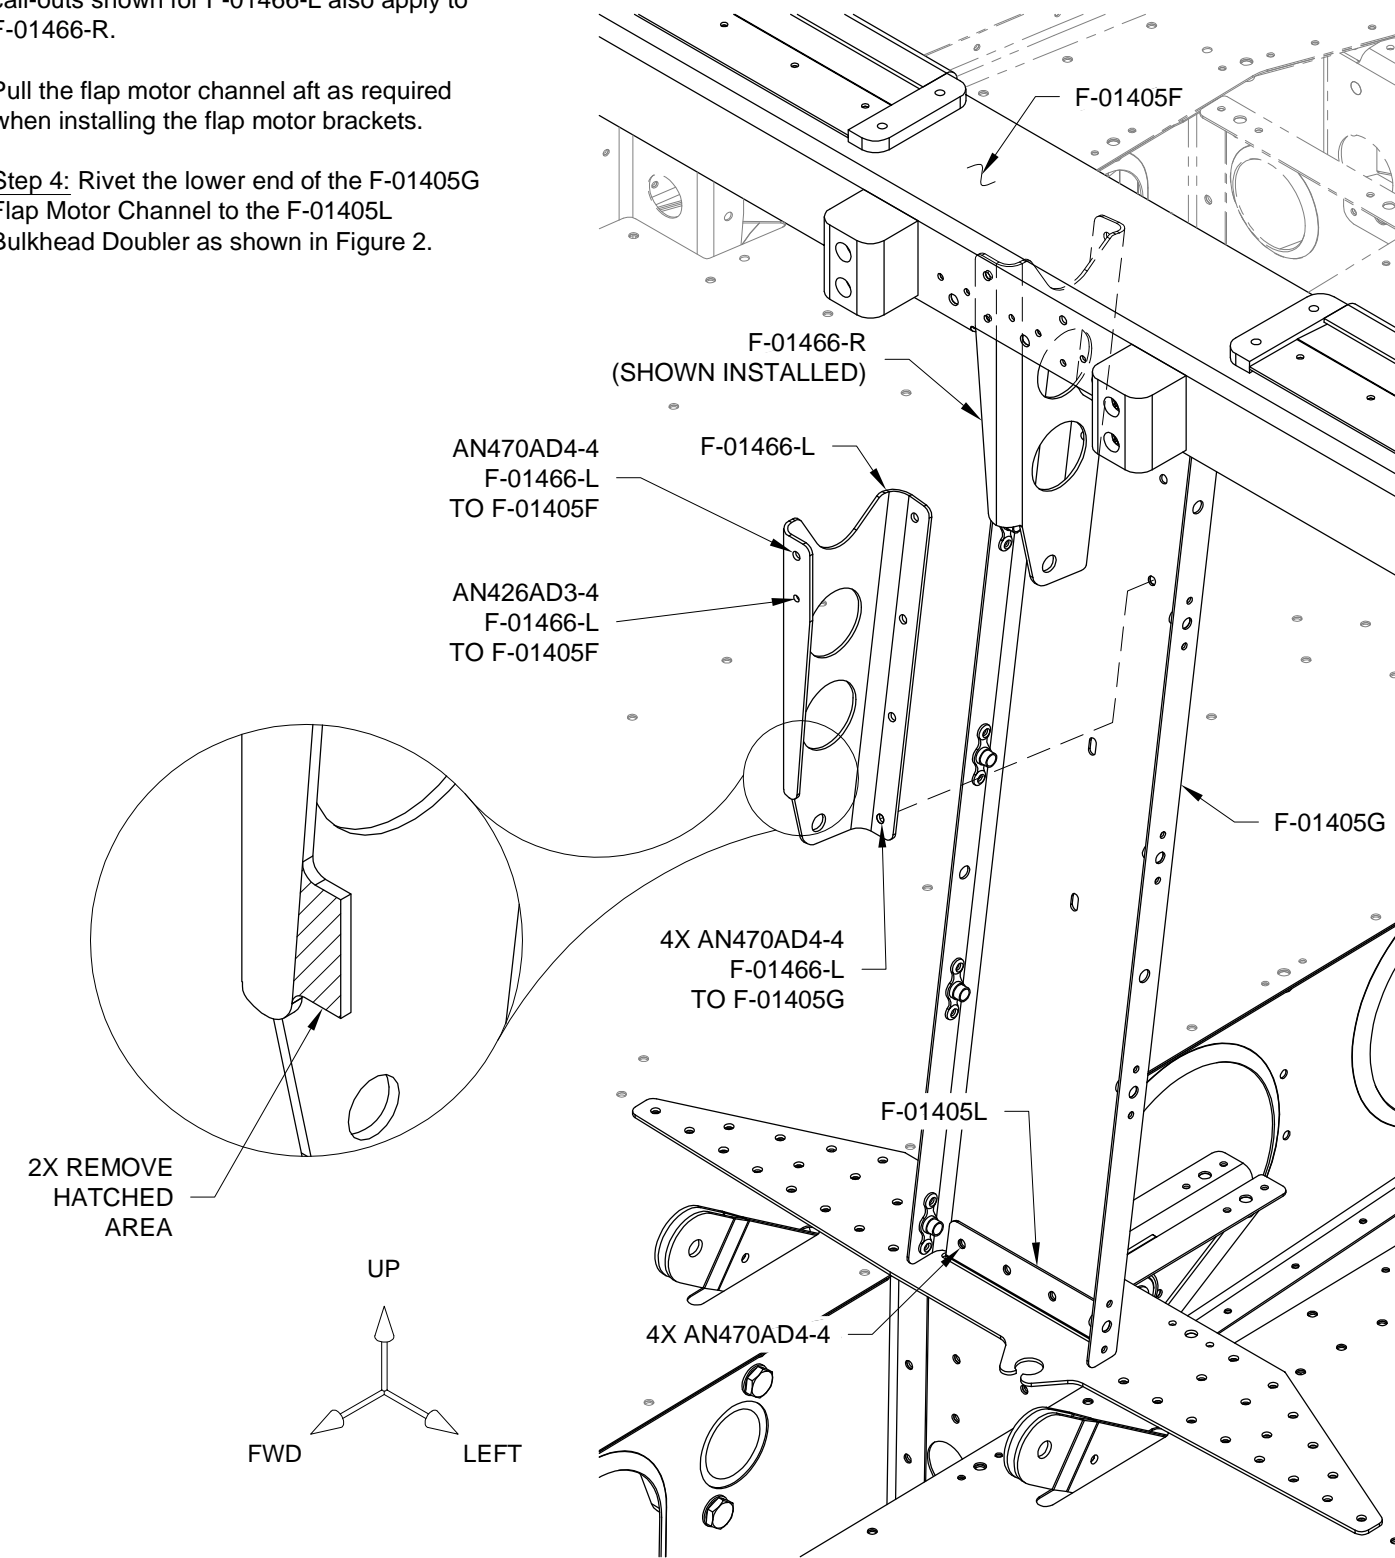

FIGURE 2: INSTALL FLAP MOTOR BRACKETS
Step 4: Rivet the lower end of the F-01405G Flap Motor Channel to the F-01405L Bulkhead Doubler as shown in Figure 2.